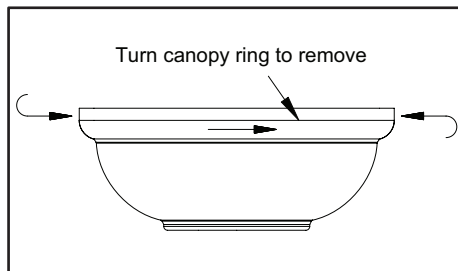

Figure 5
1. Remove the canopy ring from the canopy by turning the ring counter-clockwise until it unlocks. (Figure 5)